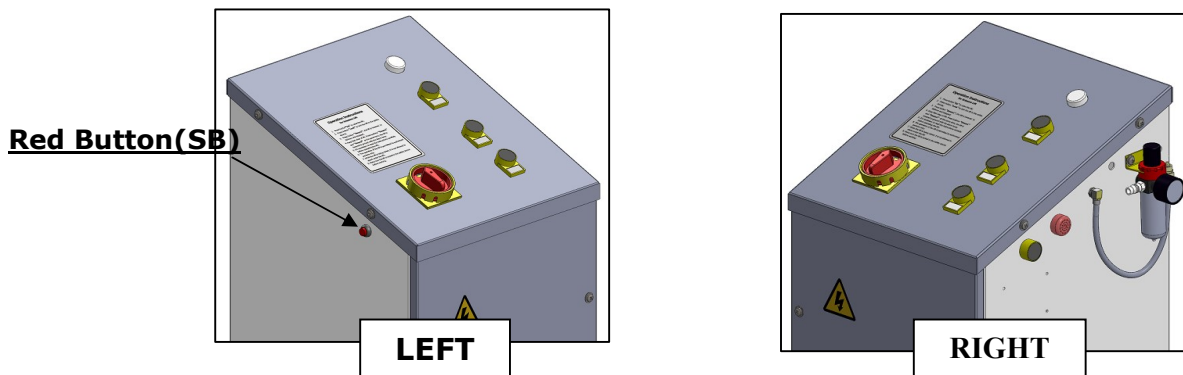

Fig. 43
- a. Turn the handles of the shutoff valves to the position as **Fig. 44** (Normal working position), push button **"UP"** until both platforms up to the position that the high limit switch and stopped, at this time, push button **"UP"** and the red button beside the oil water separator at the same time to raise the lift to the highest position (**See Fig.43**).
- c. Press button **"UP"** and the Red Button beside the oil-water separator as **Fig. 43** to fill the oil into both secondly cylinders until it is full (to the highest position).